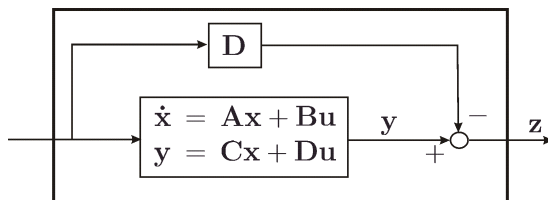

Figure 5.1: Loop allowing the removal of the direct matrix  $\mathbf{D}$
*Remark 2.* We have assumed here, in the interest of simplification, that the direct matrix  $\mathbf{D}$  involved in the observation equation was nil. In the case where such a direct matrix exists, we can remove it with a simple feed-forward loop  $\mathbf{z} = \mathbf{y} - \mathbf{Du}$ , as represented on Figure 5.1.